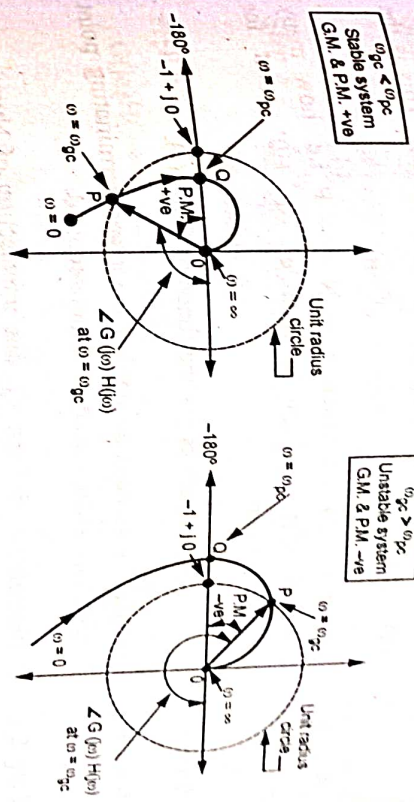

Fig. Q.21.1
- So if  $\phi$  is the angle of point  $P$  corresponding to  $\omega = \omega_{gc}$  the P.M. is the angle subtended by the phasor  $OP$  with negative real axis. This is shown in the Fig. Q.21.1.